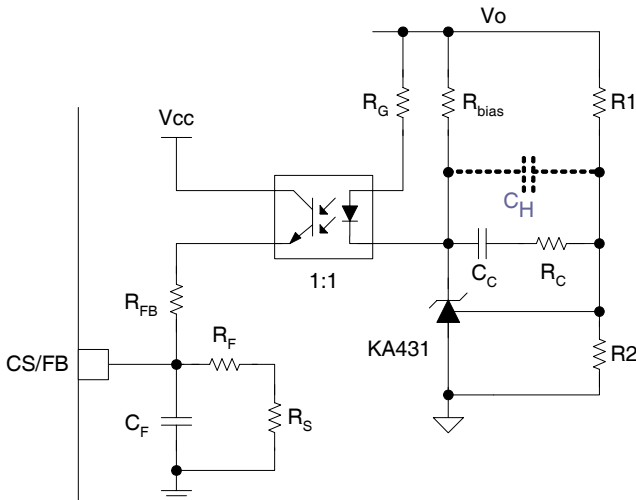

Figure 19. Output Voltage Compensation Circuit
The transfer function of the feedback compensation network shown in Fig. 19 is obtained by (8).
- (e) Place a compensator pole ( $f_{pc}$ ) around  $3f_c$ . As shown in (6), the compensator pole is placed by the current sense RC filter,  $R_F$  and  $C_F$ . There can be some restriction choosing  $R_F$  and  $C_F$  values because of the RC filter's delay time. Then  $f_{pc}$  is placed at much higher frequency than  $3f_c$ . In that case, the high-frequency switching noise might not be filtered, causing system instability. If the RC filter is not enough as a compensator pole,  $C_H$  should be added, as shown in Fig. 19. The value of  $C_H$  should be around 1/10 of  $C_C$ . If there is no problem without  $C_H$ ,  $C_H$  is not necessary.